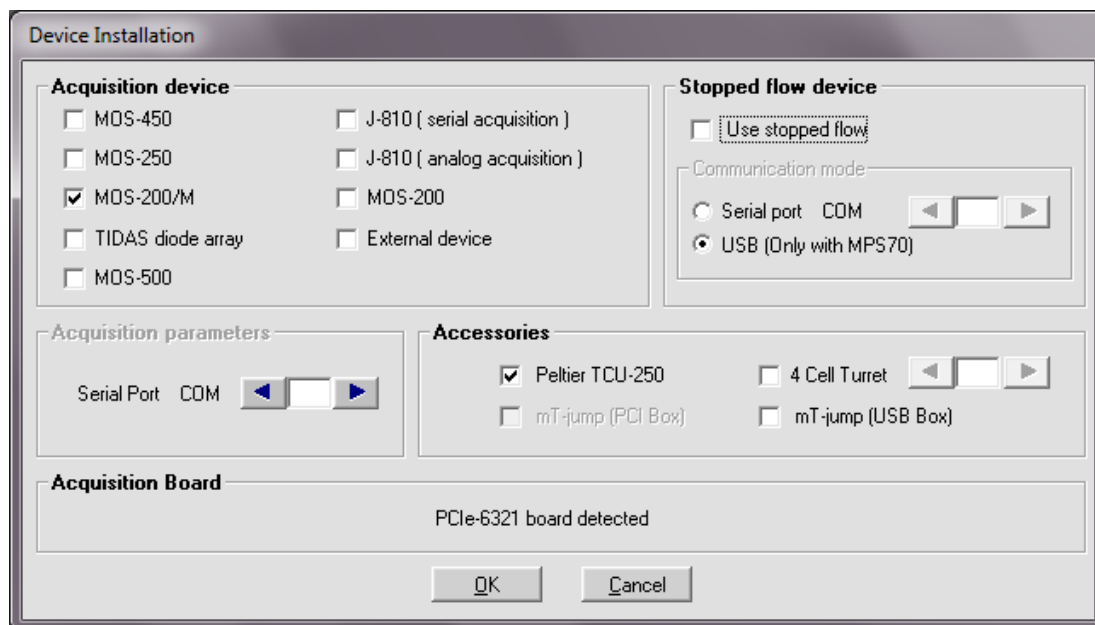

Figure 197 : Example of device installation window.
- Select **Install, Device installation** menu and check the Peltier temperature controller device as shown in Figure 197.